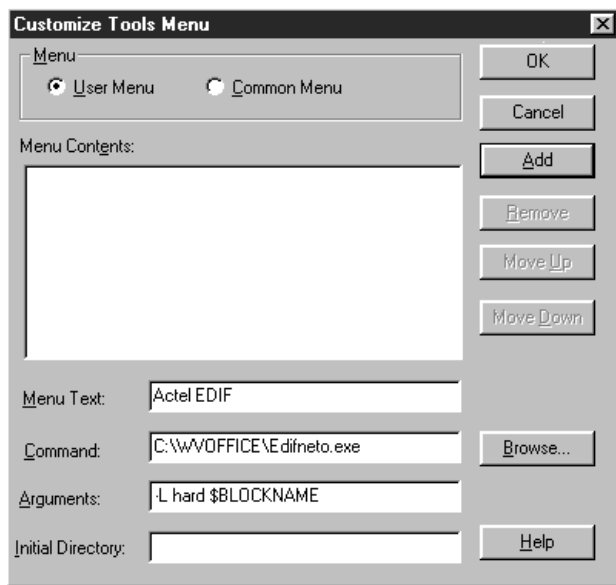

Figure 1-1. Customize Tools Menu Dialog Box
3. **Add the Actel EDIF command.** Click the User Menu radio button. In the Menu Text box type “Actel EDIF.” In the Command box type or use the Browse button to select: “c:\wvoffice\edifneto.exe.” In the Arguments box type “-L hard \$BLOCKNAME.” Click OK. Figure 1-1 shows the configured Customize Tools Menu dialog box.